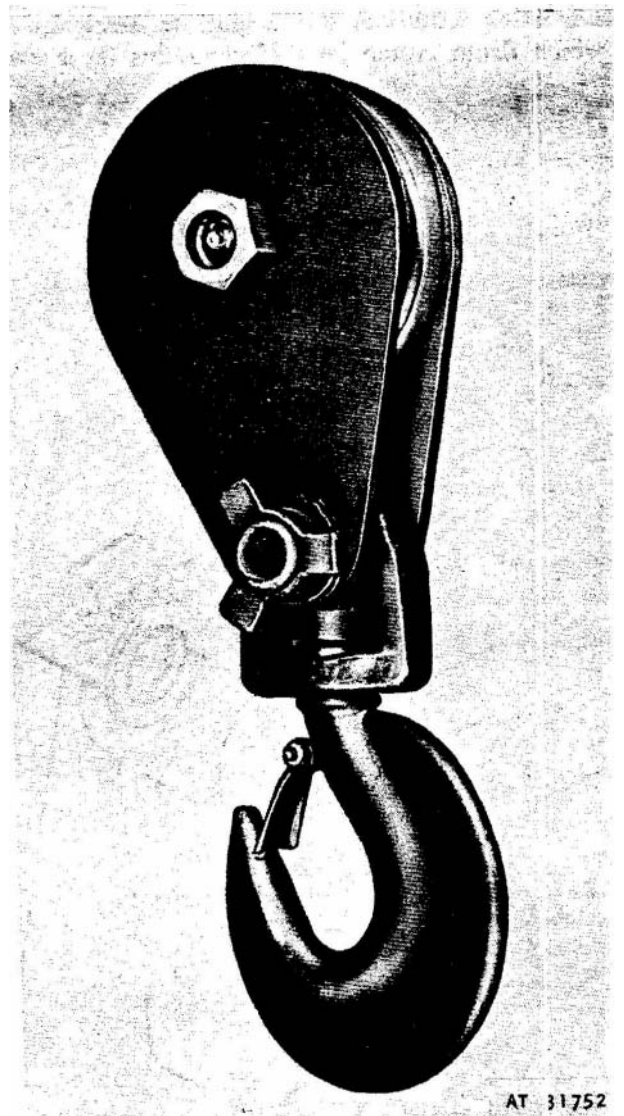

Figure 3-36. Snatch block assembly.
c. Snatch Block Assembly. A snatch block assembly (fig 3-36) consisting of a six inch sheave and swivel hook which has a working load capacity of five tons is stowed aboard the vehicle. It is utilized in conjunction with the winch for moving heavy loads.